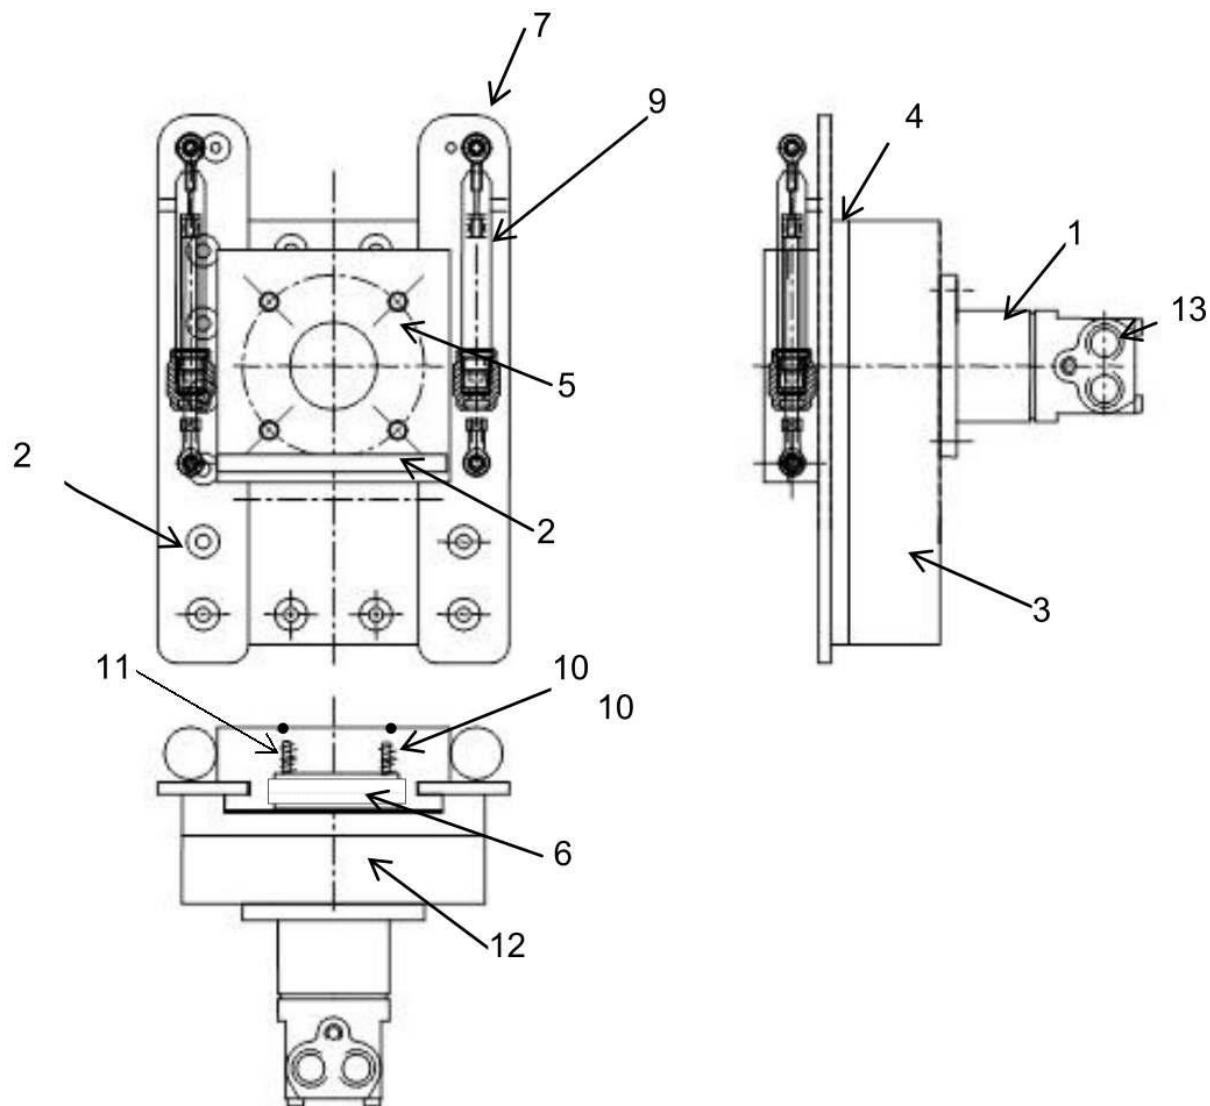

Figure 5.1. AnchorZip10 Parts Diagram
The relief interface block (item 5 on *Figure 5.1. AnchorZip10 Parts Diagram*) containing the valve ring is held in place by the slide bars mounted to the pump body and the hydraulic actuators. It may be removed by undoing the bolts securing the actuator spherical joints to the valve bar (item 8 on *Figure 5.1. AnchorZip10 Parts Diagram*), leaving the interface block free to slide along the slide bars to the edge of the pump body. Due to the spring tension it will be quite stiff to move and can be edged along by tapping the interface block with a soft faced hammer.
Once the interface block has reached the edge of the main block it should be very carefully knocked until the valve ring (item 6 on *Figure 5.1. AnchorZip10 Parts Diagram*) is visible by about 12mm. A G clamp should then be fastened around the block and exposed parts of the valve ring.